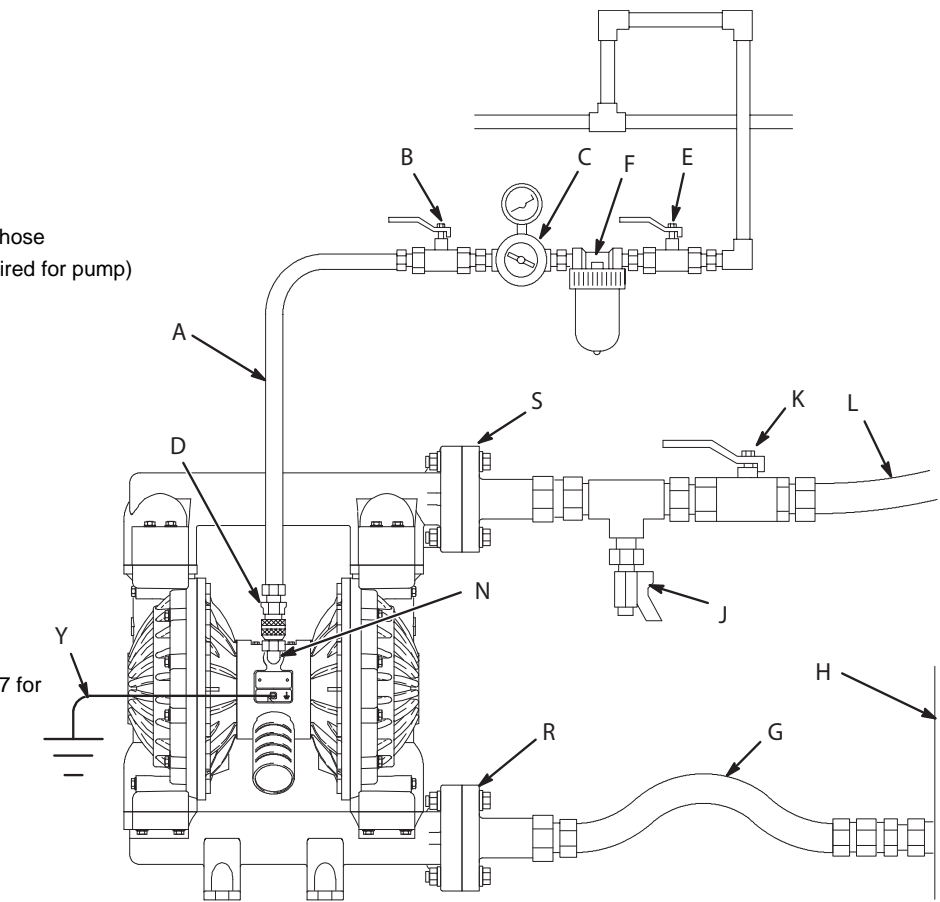

Fig. 2
- The Typical Installation shown in **Fig. 2** is only a guide for selecting and installing system components. Contact your Graco distributor or Graco Technical Assistance (see back page) for assistance in planning a system to suit your needs.
A bleed-type master air valve (B) is required in your system to relieve air trapped between this valve and the pump. Trapped air can cause the pump to cycle unexpectedly, which could result in serious injury, including splashing in the eyes or on the skin, injury from moving parts, or contamination from hazardous fluids. See Fig. 2.
1. Install the air line accessories as shown in Fig. 2. Mount these accessories on the wall or on a bracket. Be sure the air line supplying the accessories is electrically conductive.
- a Install an air regulator (C) and gauge to control the fluid pressure. The fluid outlet pressure will be the same as the setting of the air regulator.
- b Locate one bleed-type master air valve (B) close to the pump and use it to relieve trapped air. See the **WARNING** at left. Locate the other master air valve (E) upstream from all air line accessories and use it to isolate them during cleaning and repair.
- c The air line filter (F) removes harmful dirt and moisture from the compressed air supply.
2. Install an electrically conductive, flexible air hose (A) between the accessories and the 1/2 npt(f) pump air inlet (N). See Fig. 2. Use a minimum 1/2" (13 mm) ID air hose.
3. Screw an air line quick disconnect coupler (D) onto the end of the air hose (A); be sure the coupler porting is large enough to not restrict the air flow, which will affect pump performance. Screw the mating fitting into the pump air inlet snugly. Do not connect the coupler (D) to the fitting until you are ready to operate the pump.
KEY FOR Fig. 2
1. The pump fluid outlet (S) is a 2" raised face flange. Refer to **Flange Connections** on page 10.
2. Install a fluid drain valve (J) near the fluid outlet. See the **WARNING** above.
3. Install a shutoff valve (K) in the fluid outlet line.